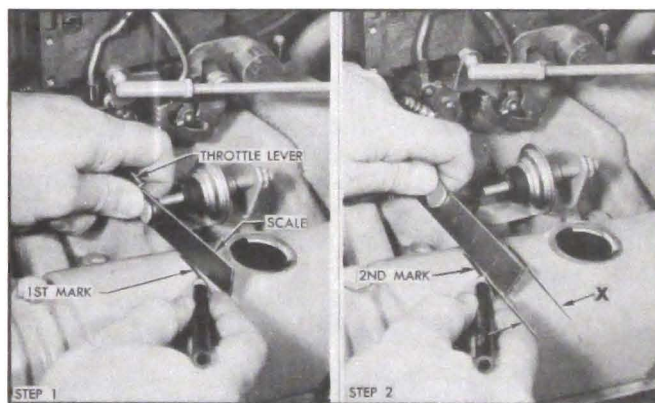

Figure 10-29—Checking Switch Timing on Car
3. Remove left oil filler cap. Hold a stiff 6" scale, or similar straight edge, against the rear face of the lower arm of the throttle lever which contacts the dash pot, so that scale rests on rocker arm cover. With throttle valve fully closed, make a pencil mark on cover at front edge of scale. See figure 10-29, step 1.
4. With ignition switch turned on, slowly open throttle while holding scale in position against throttle lever. At point where the cranking motor is energized hold the throttle lever and make a second mark on rocker arm cover at front edge of scale. See figure 10-29, step 2.
5. If vacuum switch is correctly timed, the distance (X) between pencil marks on rocker arm cover will be $\frac{3}{4}$ " to $1\frac{1}{8}$ " with all 2-barrel